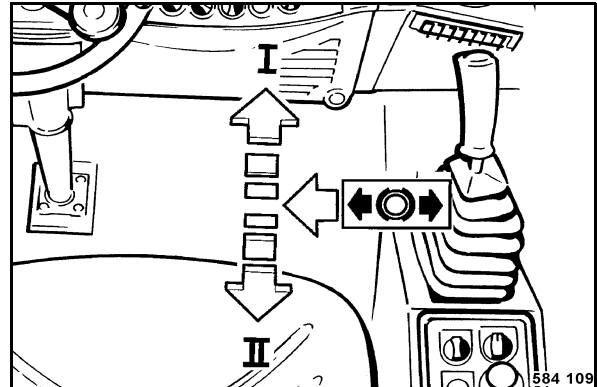

Fig. 133
- Shift the travel lever (Fig. 133) out of braking position to the left to disengage.